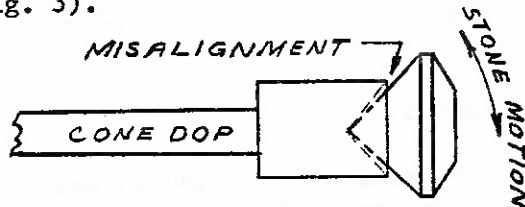
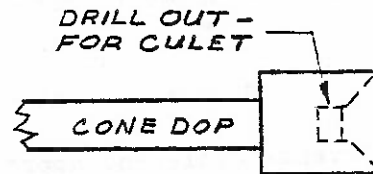

Fig. 2
Fig. 3
- d) Another common source of misalignment is when the initially cut polished pavilion is transferred into a too shallow cone dop (Fig. 2). The culet hits the bottom of the dop "V." The solution to this problem is to drill slightly into the cone dop (Fig. 3).